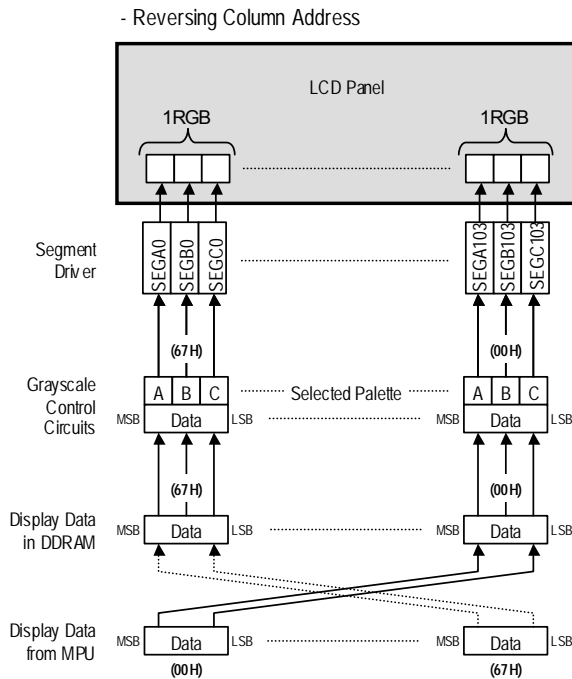

Fig 23 Overview of SWAP Function
The swap function switches the palettes  $A_j$  and the palettes  $C_j$  ( $j=0-15$ ), and is controlled by the  $D_1$  (SWAP) bit of the "Display Control (2)" instruction. This function reduces the restrictions on the IC position of an LCD module. Fig 23 "Overview of Swap Function" illustrates general outlines of internal operations, and (17-1-1) through (17-1-4) show each configuration on a mode-by-mode basis.